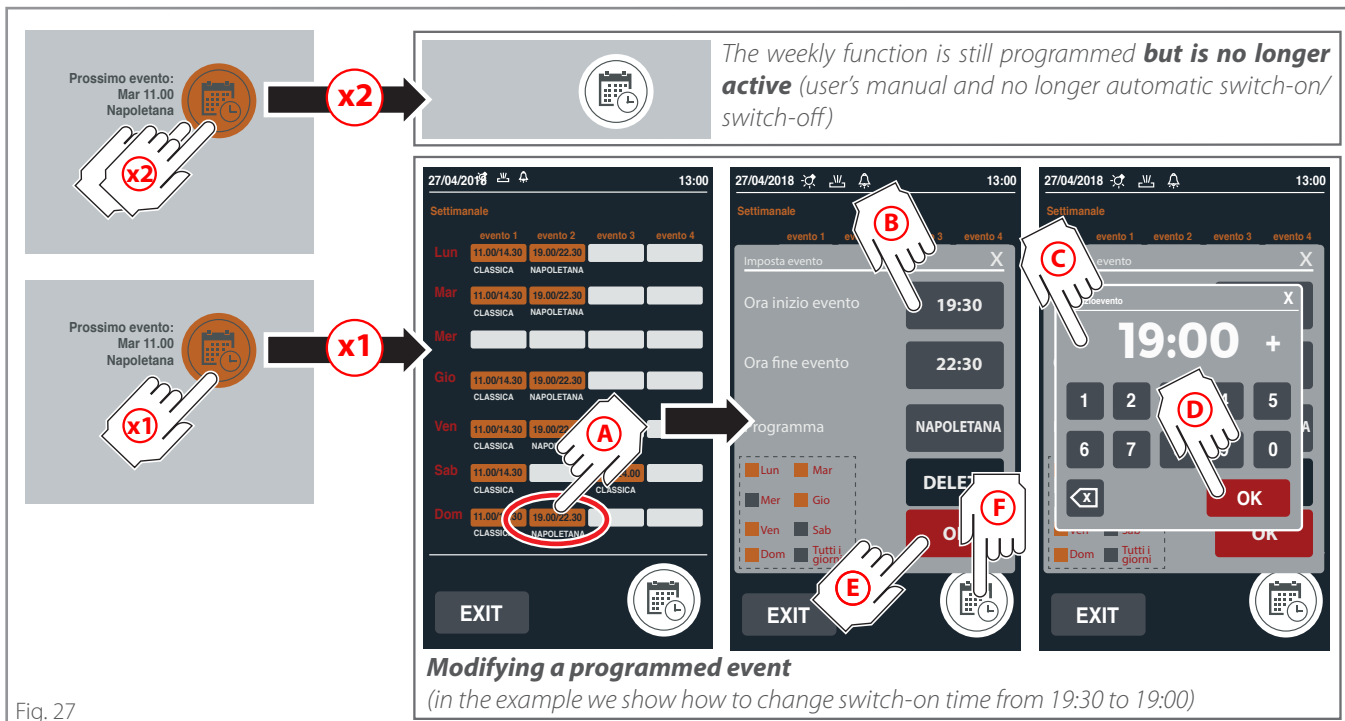

Fig. 27
► Fig. 27
To **cancel** the whole program (user's manual and no longer automatic switch-on and switch-off) see the figure ► Fig. 27 (x2)
To **modify** an event, see the figure ► Fig. 27 (x1)